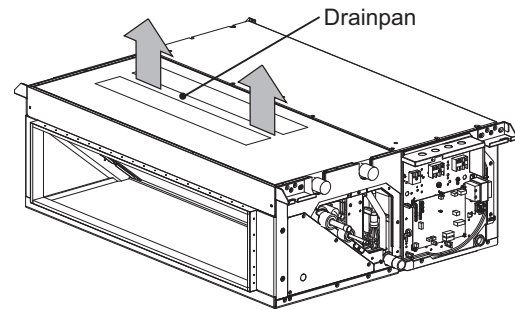

Fig.2
- (3) Remove the drainpan. (Fig.2)